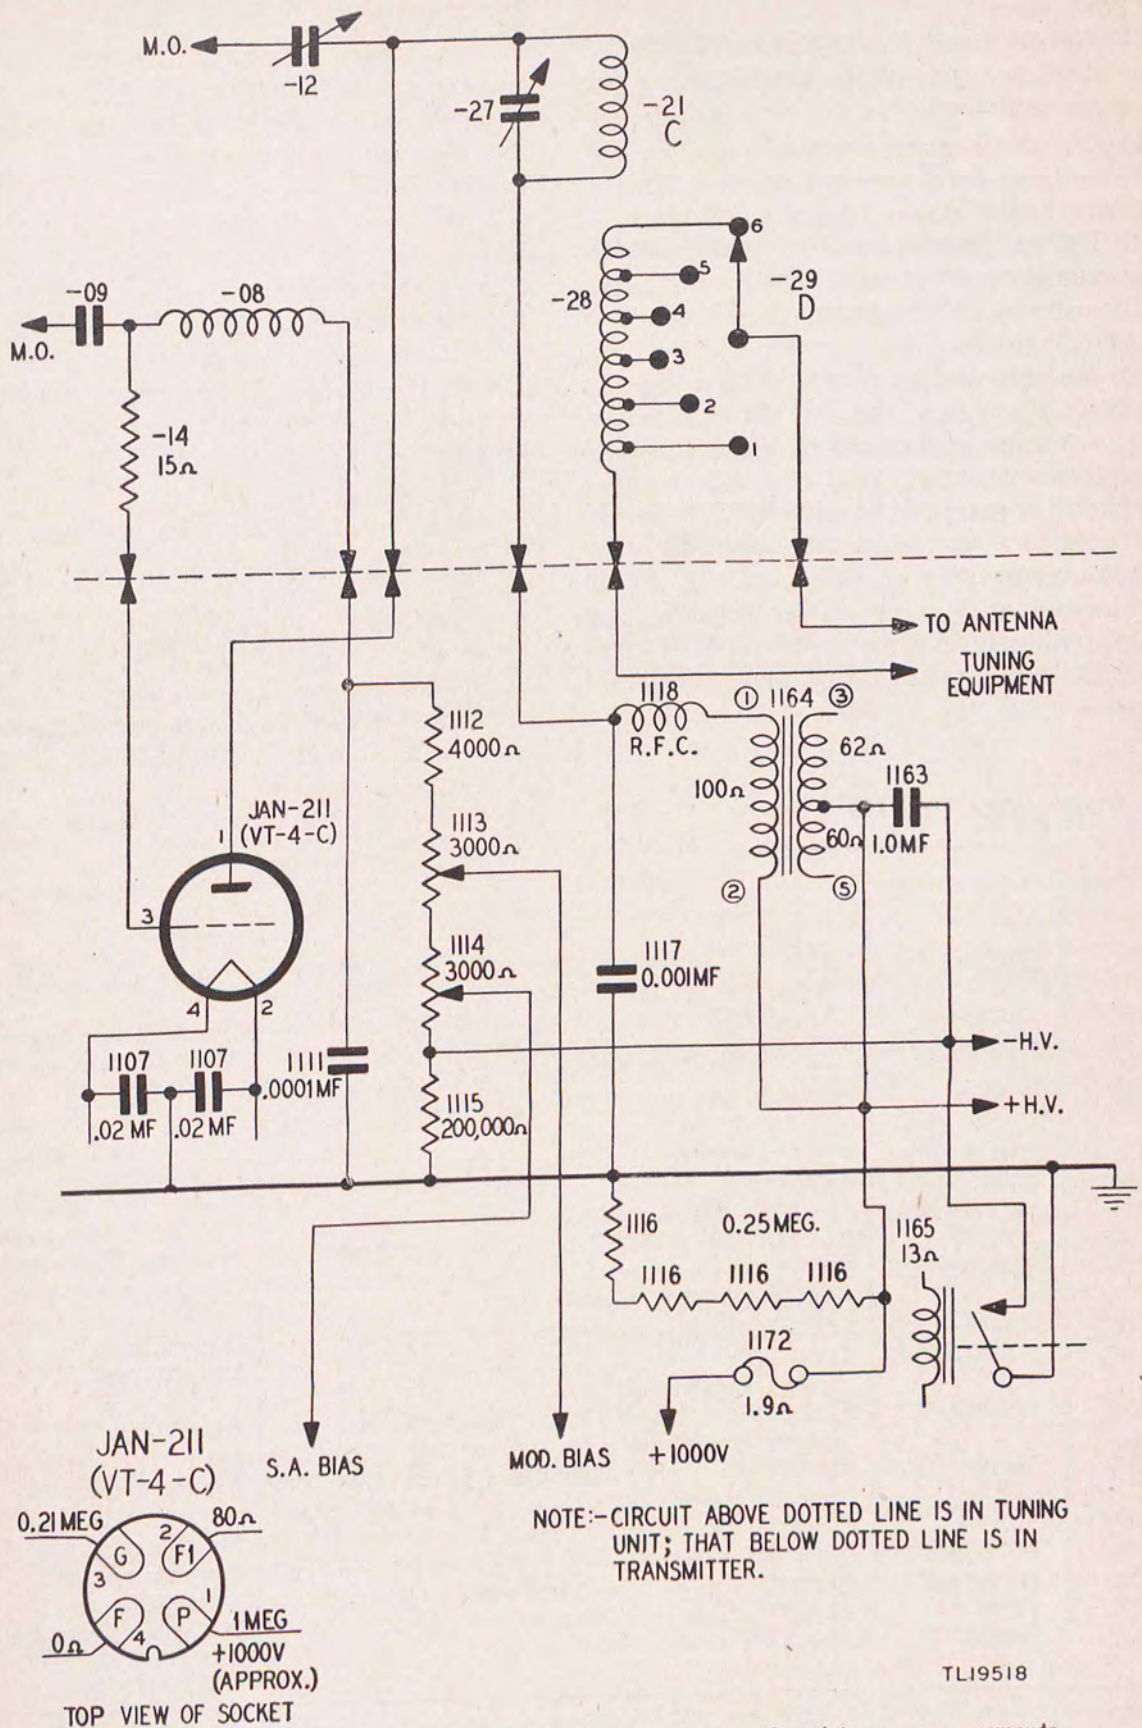

Figure 15. Power amplifier circuit diagram and voltage and resistance measurements.
*b. RESISTANCE AND VOLTAGE MEASUREMENTS.* Make the resistance measurements shown in figure 15, from the tube-pin connections to ground and from the top of the socket with the tube removed. The plate voltage given in figure 15 cannot be made at that point with the set in operation, because the socket pin is not accessible. Make tests under the following conditions:
*c. PARTS DATA (fig. 15).*